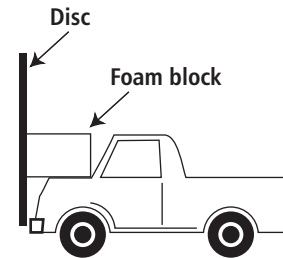

Figure 10: Test Vehicle
2. Tape the foam block to the top of the hood of the test vehicle so that it is flush with where the disk will be placed on the front of the vehicle (figure 10).